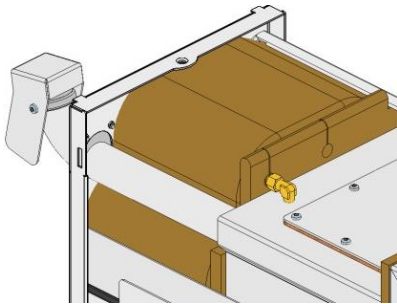
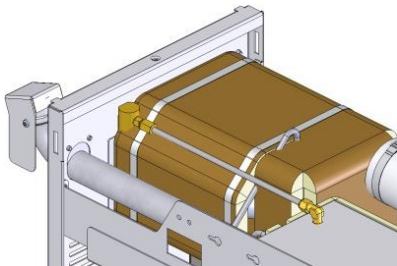

Fig. 4: Fitting insulation on 200T2
Fig. 5: Fitting insulation on 250T3
9. Fit insulation as shown in Fig. 4 or Fig. 5.